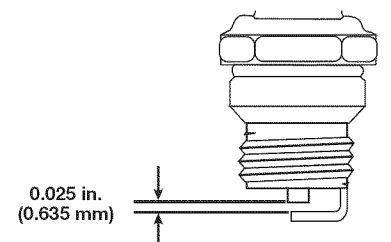

Fig. 26
- Replace a cracked, fouled or dirty spark plug. Set the air gap at **0.025 in. (0.635 mm)** using a feeler gauge (Fig. 26).